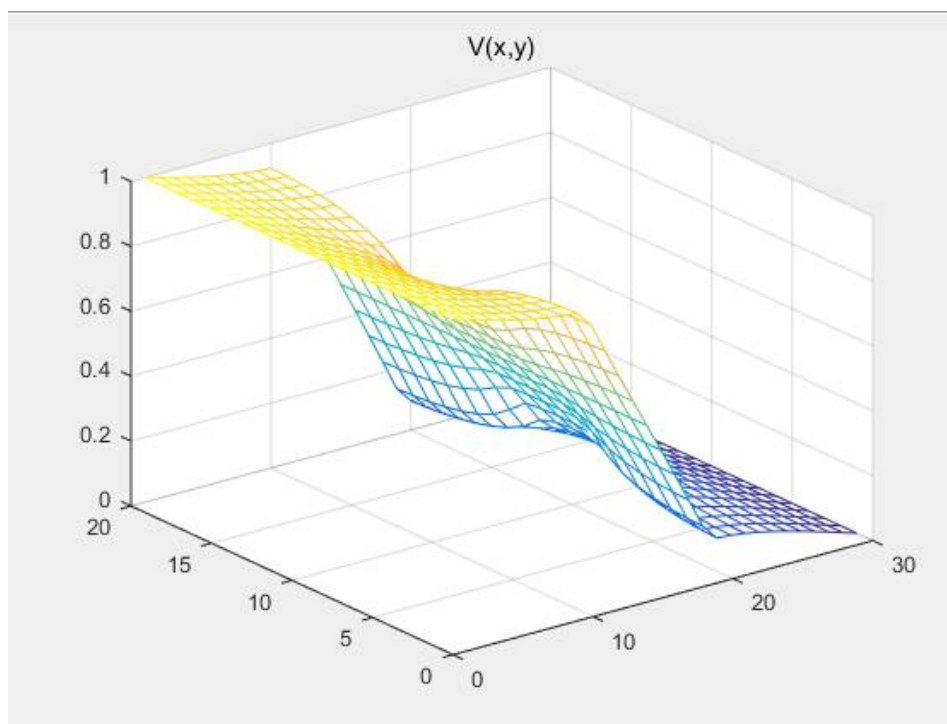

Figure 5: $V(x,y)$
- Surface plot for V(x,y) is shown in Figure 5.